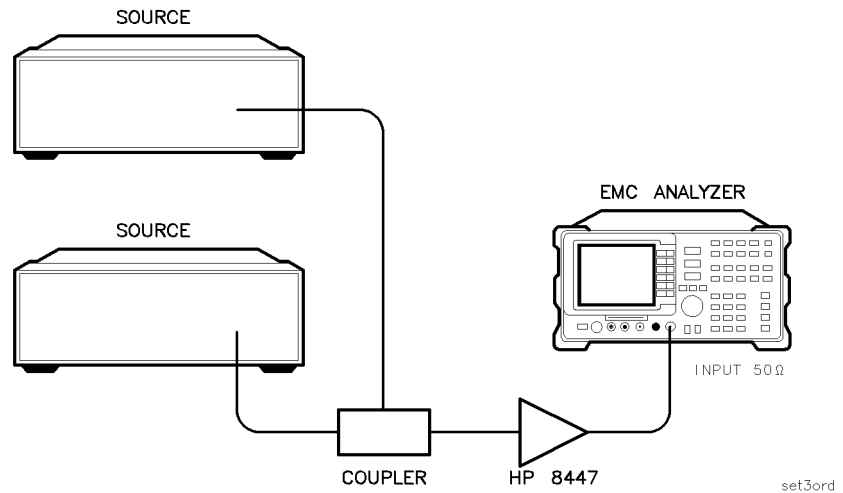

Figure 8-15. Setup for making third order measurements.
1. Connect two sources to the EMC analyzer through an amplifier with the appropriate frequency range. Refer to Figure 8-15. Set one source to 300 MHz and 80 dB μ V (–27 dBm) and the other source to 301 MHz and 80 dB μ V (–27 dBm).